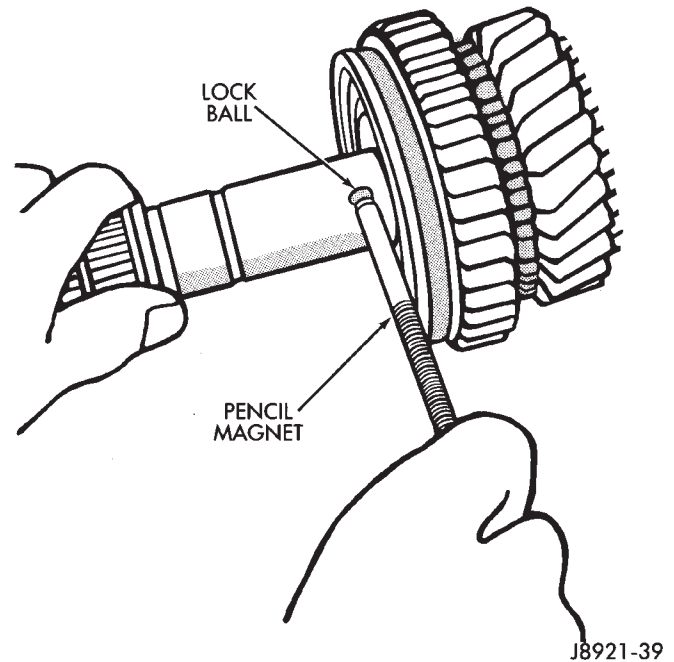

Fig. 31 Synchronizer Lock Ball Removal
- (15) Remove needle roller bearing.
- (16) Remove synchronizer ring.
- (17) Remove synchronizer lock ball with pencil magnet (Fig. 31).